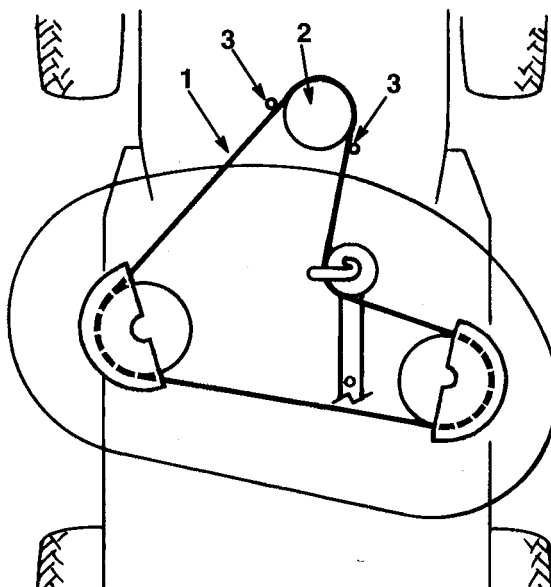

Figure 42
10. Remove the mower belt from the lower engine pulley (Fig. 42). If you are careful, you can flex the belt guide(s) just far enough away from the pulley to remove the belt. If it is too difficult to remove the belt, loosen the bolts and nuts securing the belt guides.
4. Install mower belt onto the lower engine pulley (Fig. 42). If you are careful, you can flex the belt guide(s) just far enough away from the pulley to install the belt. If it is too difficult to install the belt, loosen the bolts and nuts securing the belt guides. The belt guide must not contact the pulley.